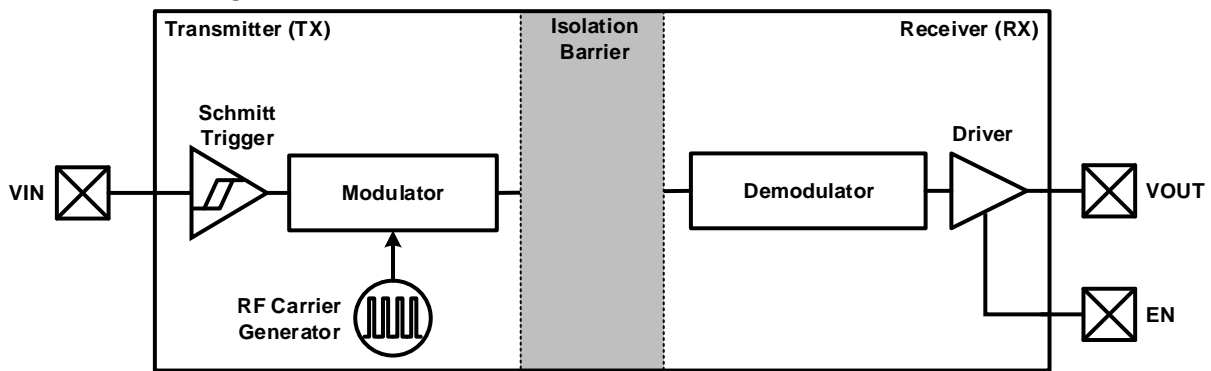
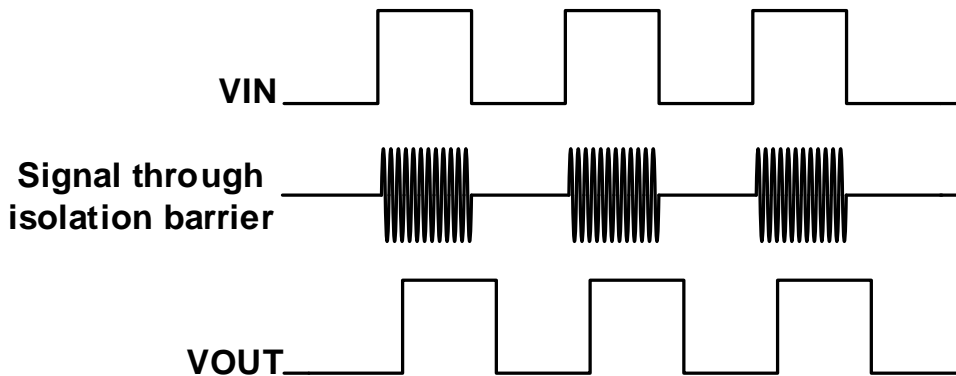

Figure 9-1 Functional Block Diagram of a Single Channel
Figure 9-2 Conceptual Operation Waveforms of a Single Channel
The CA-IS38xx family of devices use a simple ON-OFF keying (OOK) modulation scheme to transmit signal across the SiO₂ isolation capacitors that provide a robust insulation between two different voltage domain and act as a high frequency signal path between the input and the output. The transmitter (TX) modulates the input signal onto the carrier frequency, that is, TX delivers high frequency signal across the isolation barrier in one input state and delivers no signal across the barrier in the other input state. Then the receiver rebuilds the input signal according to the detected in-band energy. This simple architecture offers a robust isolated data path and requires no special considerations or initialization at start-up. The capacitor-based signal path is fully differential to maximize noise immunity, which is also known as common-mode transient immunity. Advanced circuitry techniques are applied for better EMI introduced by the carrier signal and IO switching. The capacitively-coupled architecture provides much higher electromagnetic immunity compared to the inductively-coupled one. And OOK modulation scheme eliminates the missing-pulse error that occurs in the pulse modulation method. A simplified functional block diagram and conceptual operation waveforms of a single channel is shown in Figure 9-1 and Figure 9-2.